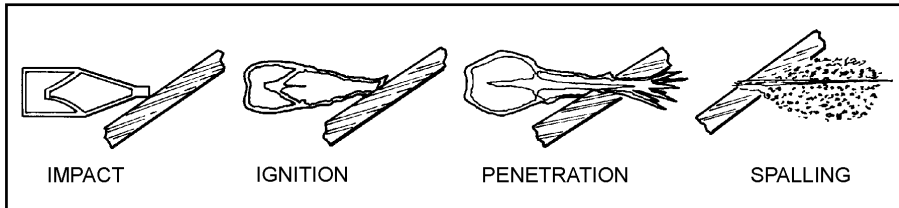

Figure 3-3. Effects of M136 AT4 warhead.
- a. **Description.** The M136 AT4's warhead has excellent penetration ability and lethal after-armor effects. The extremely destructive, 440 gram shaped-charge explosive penetrates more than 14 inches (35.6 cm) of armor. Warhead effects are shown in Figure 3-3.
- (1) **Impact.** The nose cone crushes; the impact sensor activates the fuze.
- (2) **Ignition.** The piezoelectric fuze element activates the electric detonator. The booster detonates, initiating the main charge.
- (3) **Penetration.** The main charge fires and forces the warhead body liner into a **directional gas jet that penetrates armor plate.**
- (4) **After-Armor Effects (Spalling):** The projectile fragments and incendiary effects produce blinding light and destroy the interior of the target.